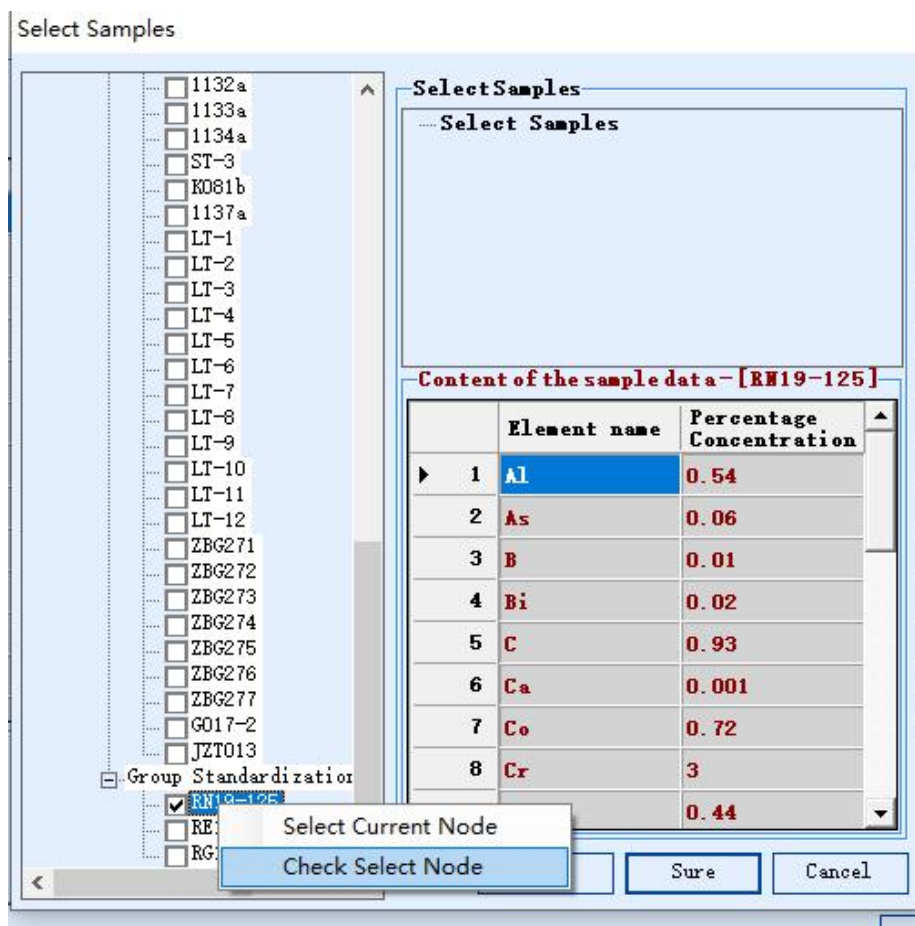

Figure 4-25 Select node
Step 4 Find the sample in the sample library, tick it, right-click " Check Select Node", and then click "Sure" and "Next Step" as shown in Figure 4-25: